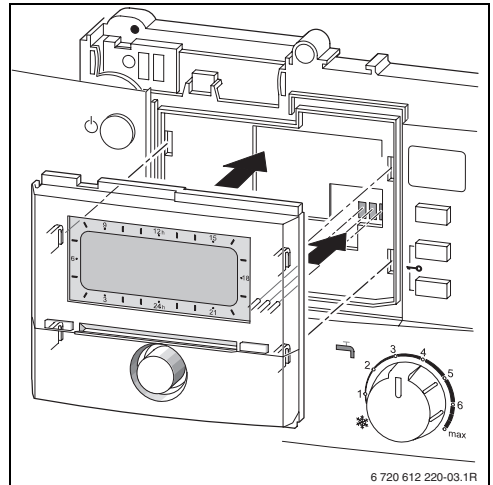

Fig. 8
- ▶ Installation of the controls automatically produces BUS connection via the three contacts (→ Fig. 8 on page 14).